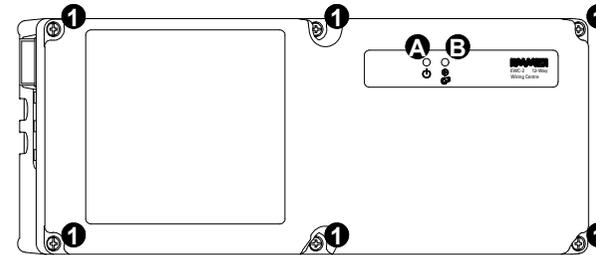

Fig. 1: External aspect.
There are two LEDs on the device front panel, shown in Fig. 1:
- Remove the 6 screws labelled as **1** in Fig. 1 then remove the front plastic cover.